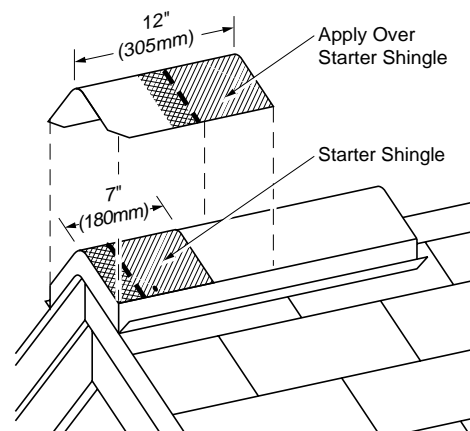

Figure 12-13: Apply a full cap shingle over the starter piece, flush with the bottom and side edges of the starter.
3. Apply a full cap shingle over the starter (Figure 12-13), and place fasteners at $5\frac{5}{8}$ " ($6\frac{1}{4}$ " for metric) up from the exposed bottom edge and 1" in from each side. Nails must not be exposed on the finished roof. All nail heads must be driven straight and must not cut into the shingle surface.